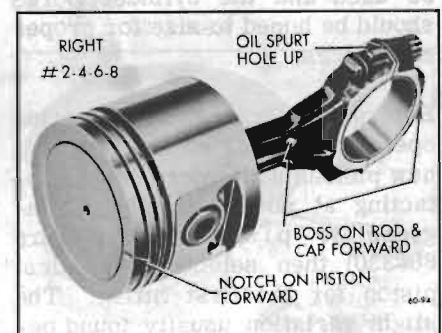

Figure 60-335—Right Bank Piston and Rod Assembly
3. If the piston and rod assembly is to be installed in the right bank, the assembly must be made as shown in Figure 60-335.